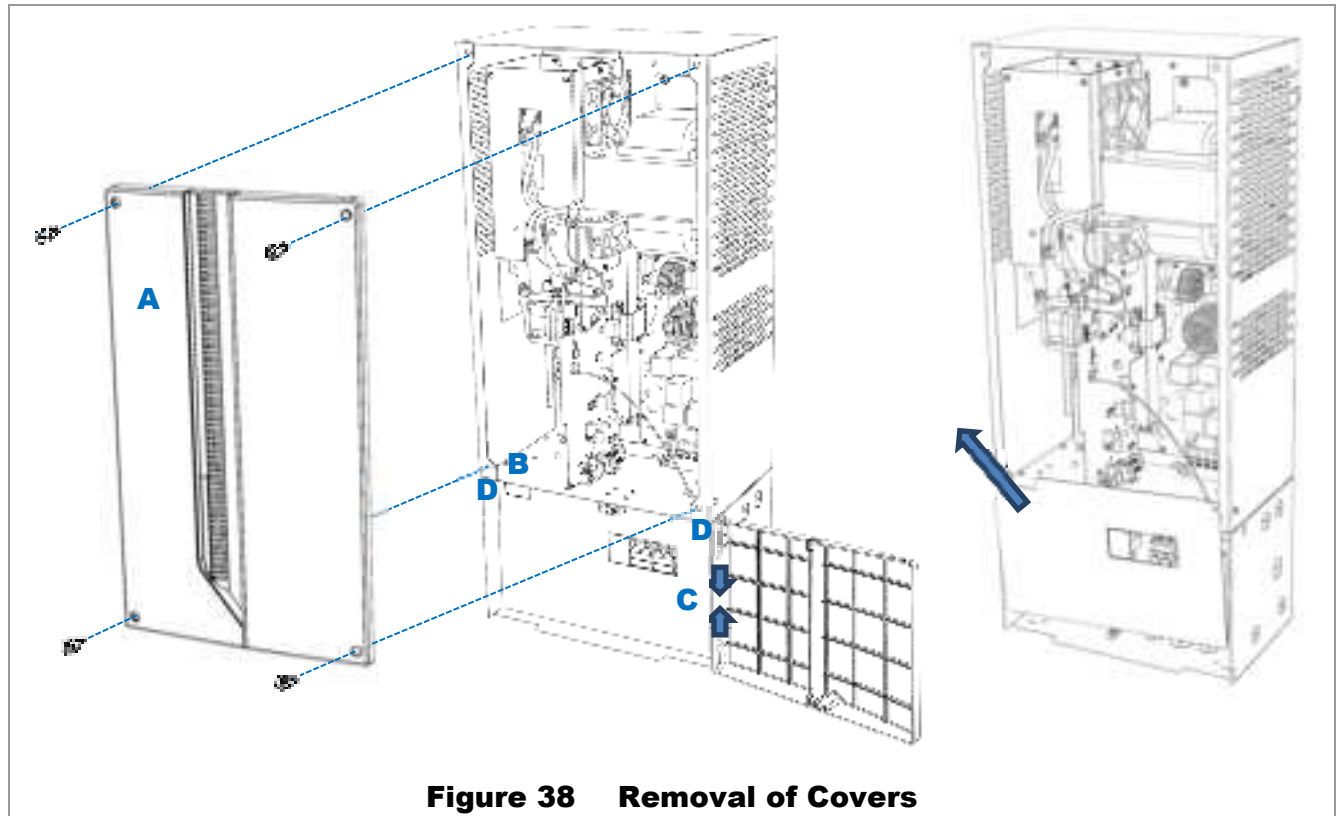

Figure 38 Removal of Covers
1. Using a 5 mm hex (Allen) wrench, remove 4 screws from the cover. Remove the cover. See **A** in Figure 38.